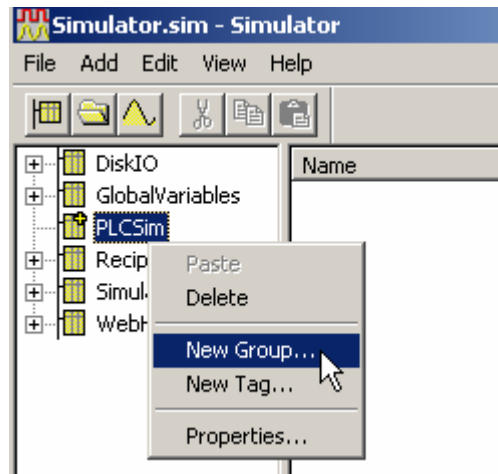

Figure 4.4. Creating a New Group
1. Right-click the **PLCSim** device and select **New Group** from the pop-up menu, as shown in Figure 4.4.